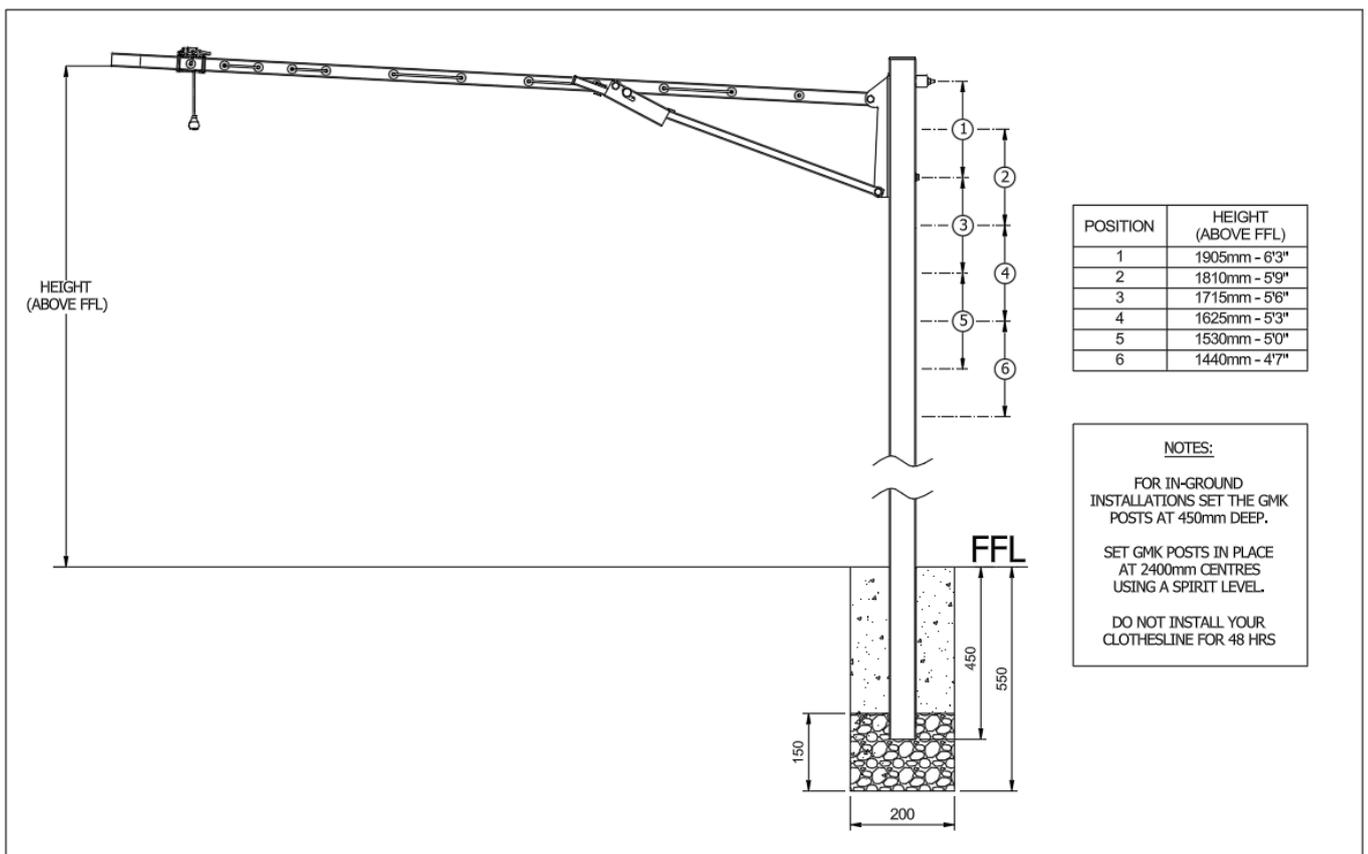

Fig 8. GMK in-ground installation.
3. GMK has multiple height settings. Pick the one that best suits the end user, (50mm above head height is recommended). See Figs 8 and 9 for recommended installation heights.
- Install the GMK (Fig 8).